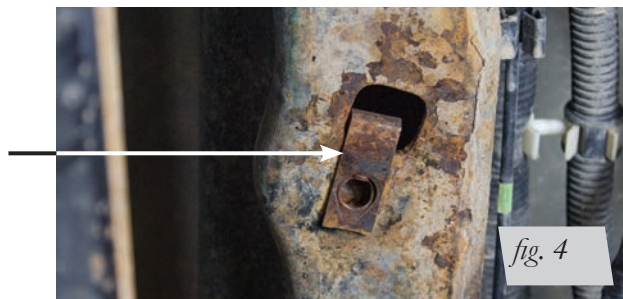

fig. 4
3. Remove both jounce bumpers between the frame and axle (Figs. 3a or 3b) and for 2004-08 models remove the stock universal nut that held the jounce bumpers in place (Fig. 4).